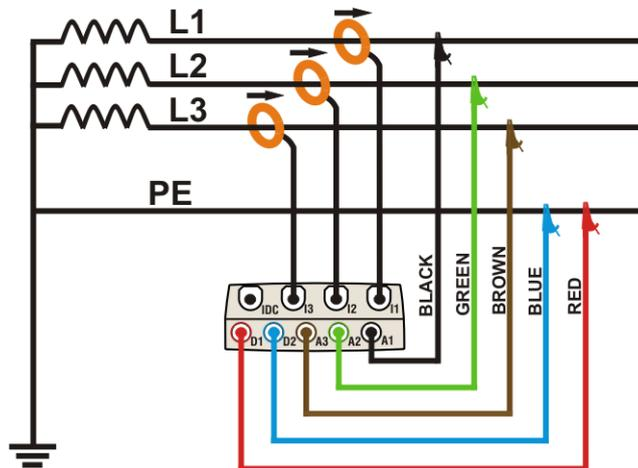

Fig. 256: Meter connection in a three phase 3-wire system
2. Connect voltage test leads on Phases L1, L2, L3, and Ground cables respecting the colours as shown in Fig. 256. **Verify the result “123” at display relative to a correct phase sequence indication** (see § 5.2.1) and perform the corrections if necessary.
3. Connect the transducer current clamps on Phase L1, L2, L3 cables as shown in Fig. 256 respecting the clamp's arrow direction indicating the current standard sequence from generator to load. **On Real Time Values' section screens always verify the positive value of Active Power and the power factor relative to load which should be normally inductive** before starting a recording. Reverse the clamp by 180 degrees on cables in case of negative readings.